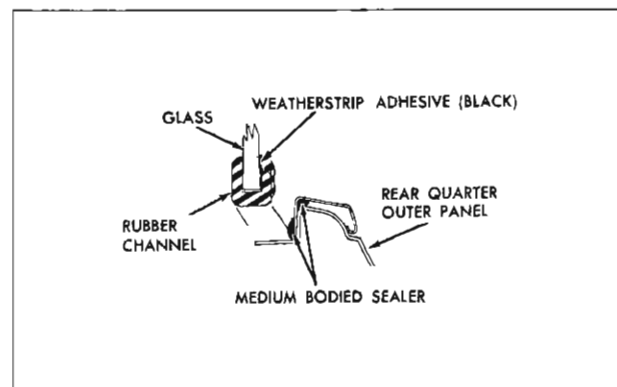

Fig. 74—Stationary Window Sealing
4. Using a plews oiler or any other suitable applicator, apply an approved weatherstrip adhesive (black) between glass and outer wall of rubber channel completely around window. Clean off excess sealer (fig. 74).